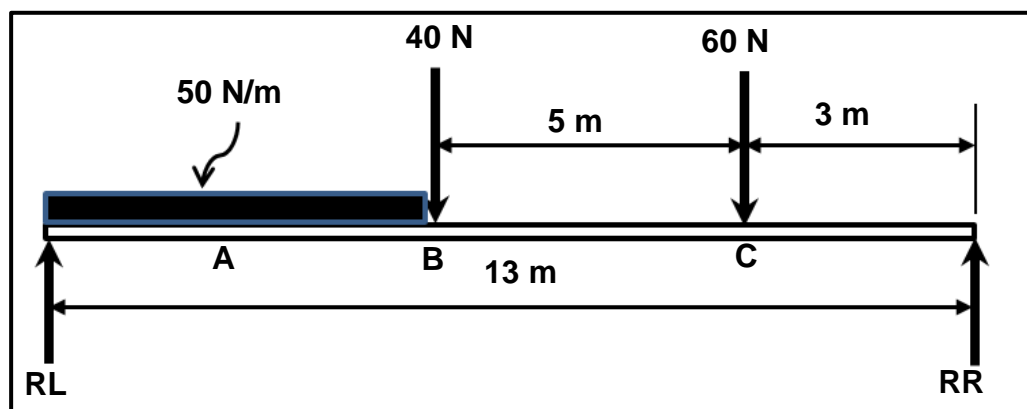

FIGURE 7.3
- 7.3 FIGURE 7.3 below shows a beam that is supported by two vertical supports, **RL** and **RR**. Two vertical point loads are exerted onto the beam. A uniformly distributed load (**A**) of 50 N/m is exerted over a length of 5 m on the left-hand side of the beam.